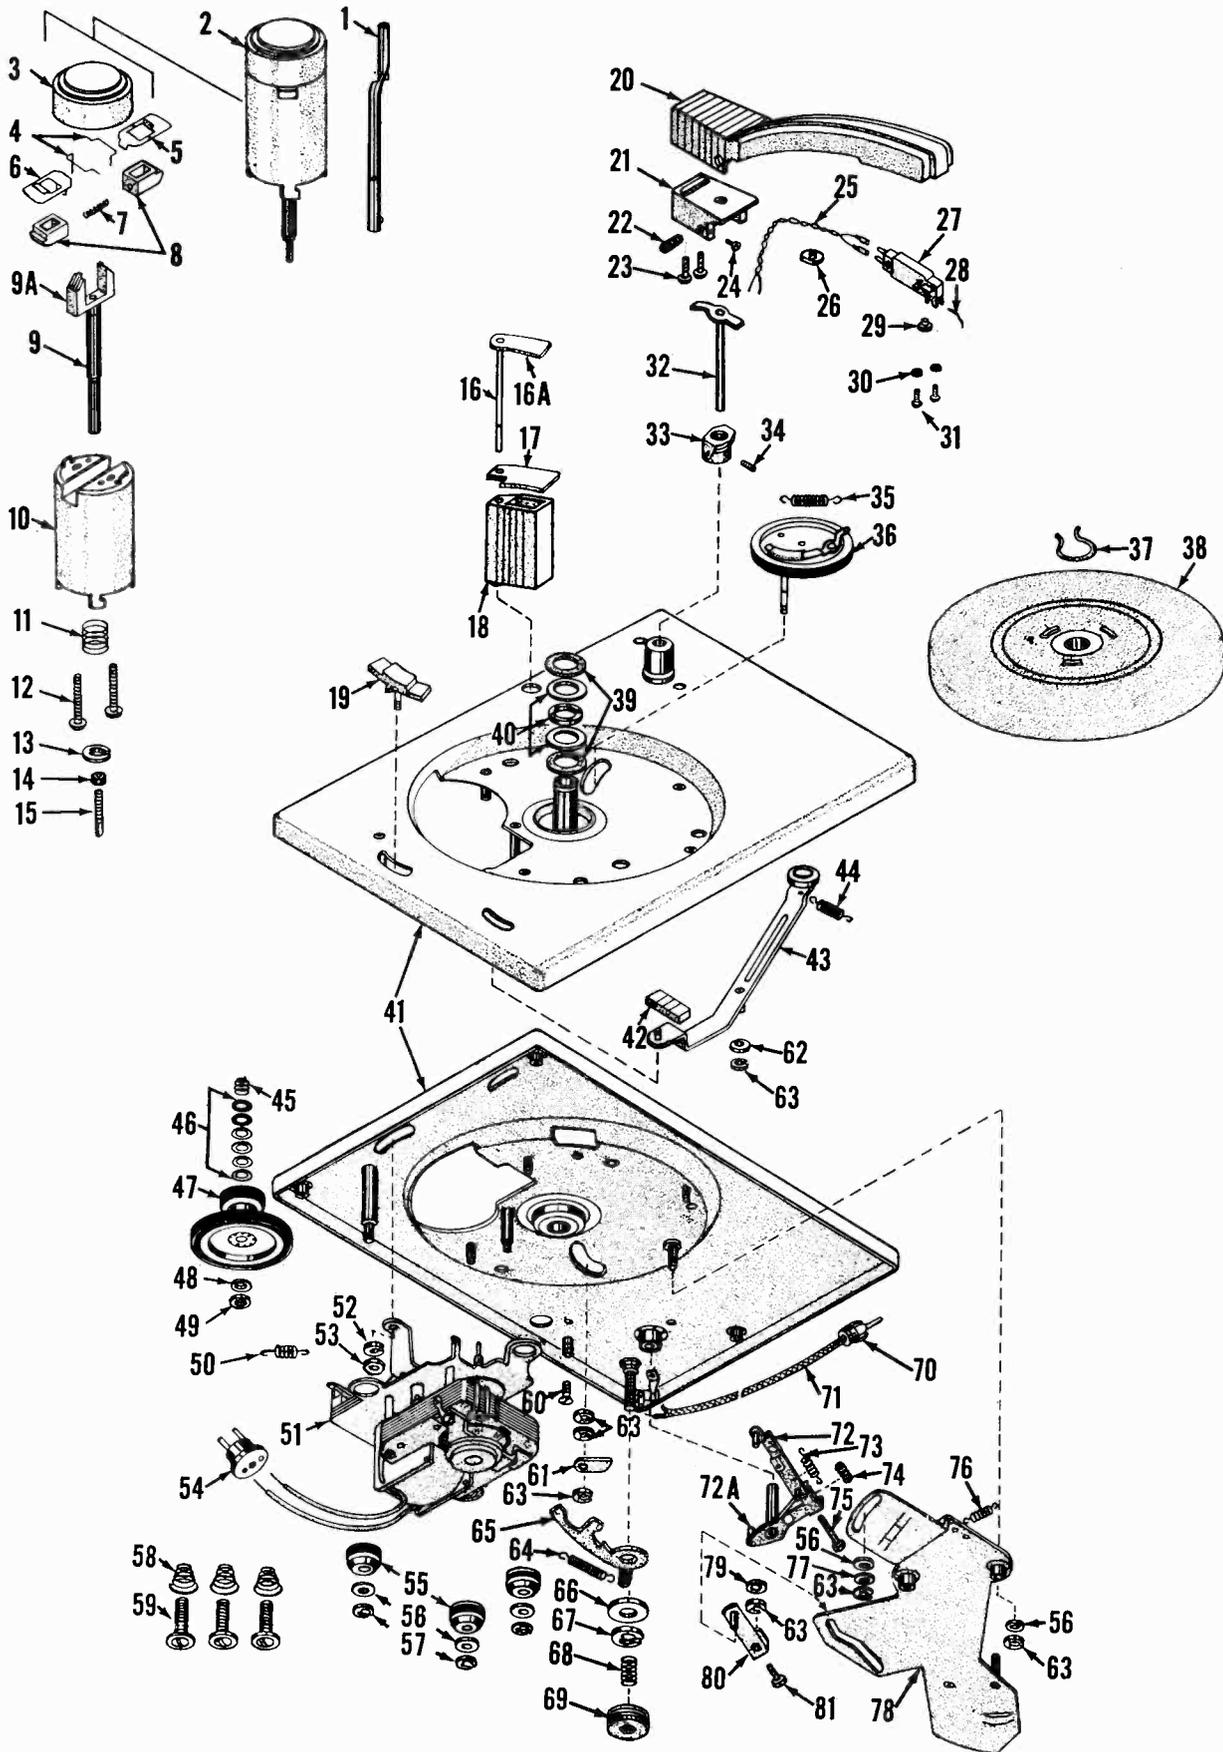

Figure 12. RC400 Exploded View.
The cork washers (39) and thrust bearing assembly (40) are removed by sliding them over the centerpost socket. Replace them in the order shown in figure 12.